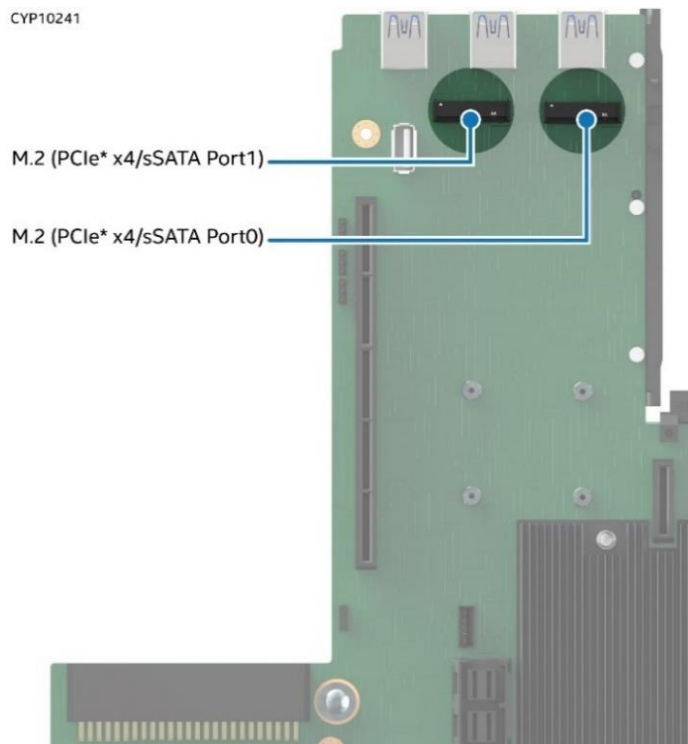

Figure 69. M.2 SSD Connector Location
5. Locate the M.2 SSD port 0 (see Figure 69). Refer to Section 5.4, "Server Board Features" for the location.